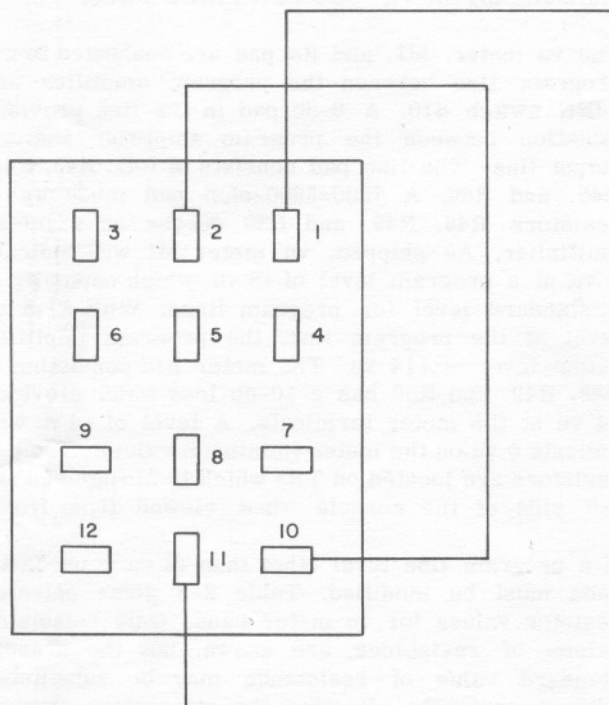

Figure 2-3. Jumper Plug Wiring Schematic Diagram
d. Plug Preamplifiers 356A-1 or jumper plugs into J1 through J6 as determined by the number and types of inputs to be used. If a mixer is used with a source which does not require a preamplifier (tape recorder, turntable with external preamplifier) use a jumper plug in lieu of a 356A-1. Refer to figure 2-3 for the schematic diagram of a jumper plug. The input impedance should be 600 ohms (unbalanced). If an attenuation pad is needed, refer to figure 2-4 for correct values of resistance.